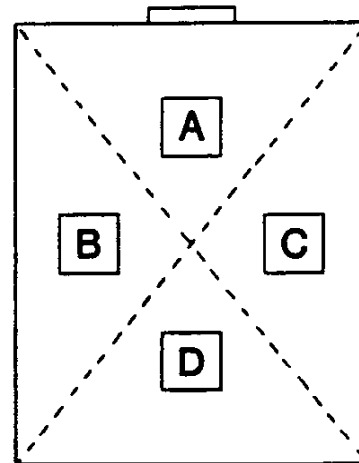

FIGURE 8
Place test weights equal to one-half scale capacity sequentially at positions A, B, C and D as shown in Figure 8.
- Place the correct test weight load on the platter sequentially at locations A, B, C and D. Note and record the display indication at each location. Refer to Figure 8.
- If the shift adjustment is done properly, the Model 2185 Base should meet the shift test accuracy requirements for the test shown in Figures 8 and 9.